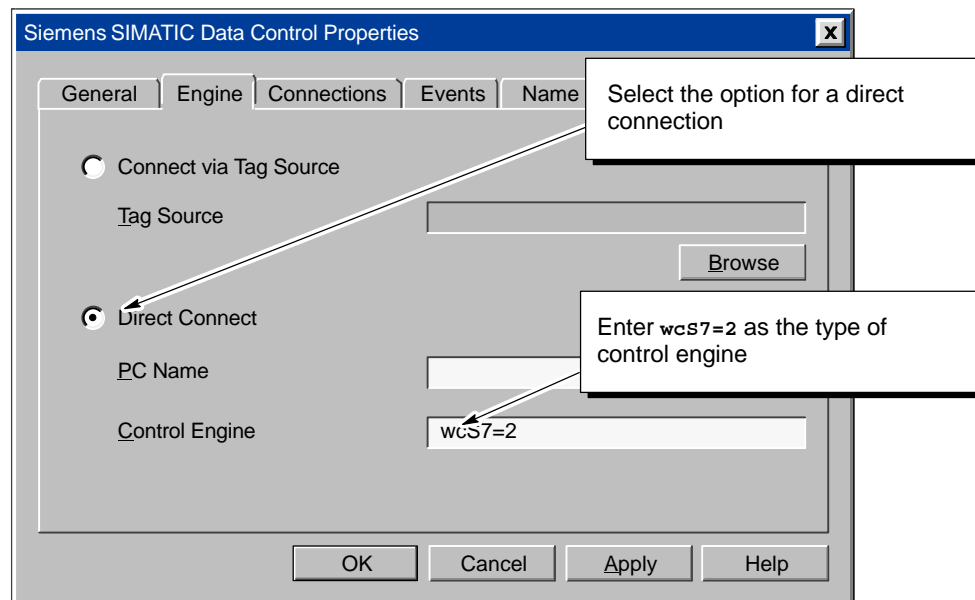

Figure E-1 Connecting to the Control Engine (Scrollbar Control Example)
1. Select the Engine tab to configure the control engine. See Figure E-1.